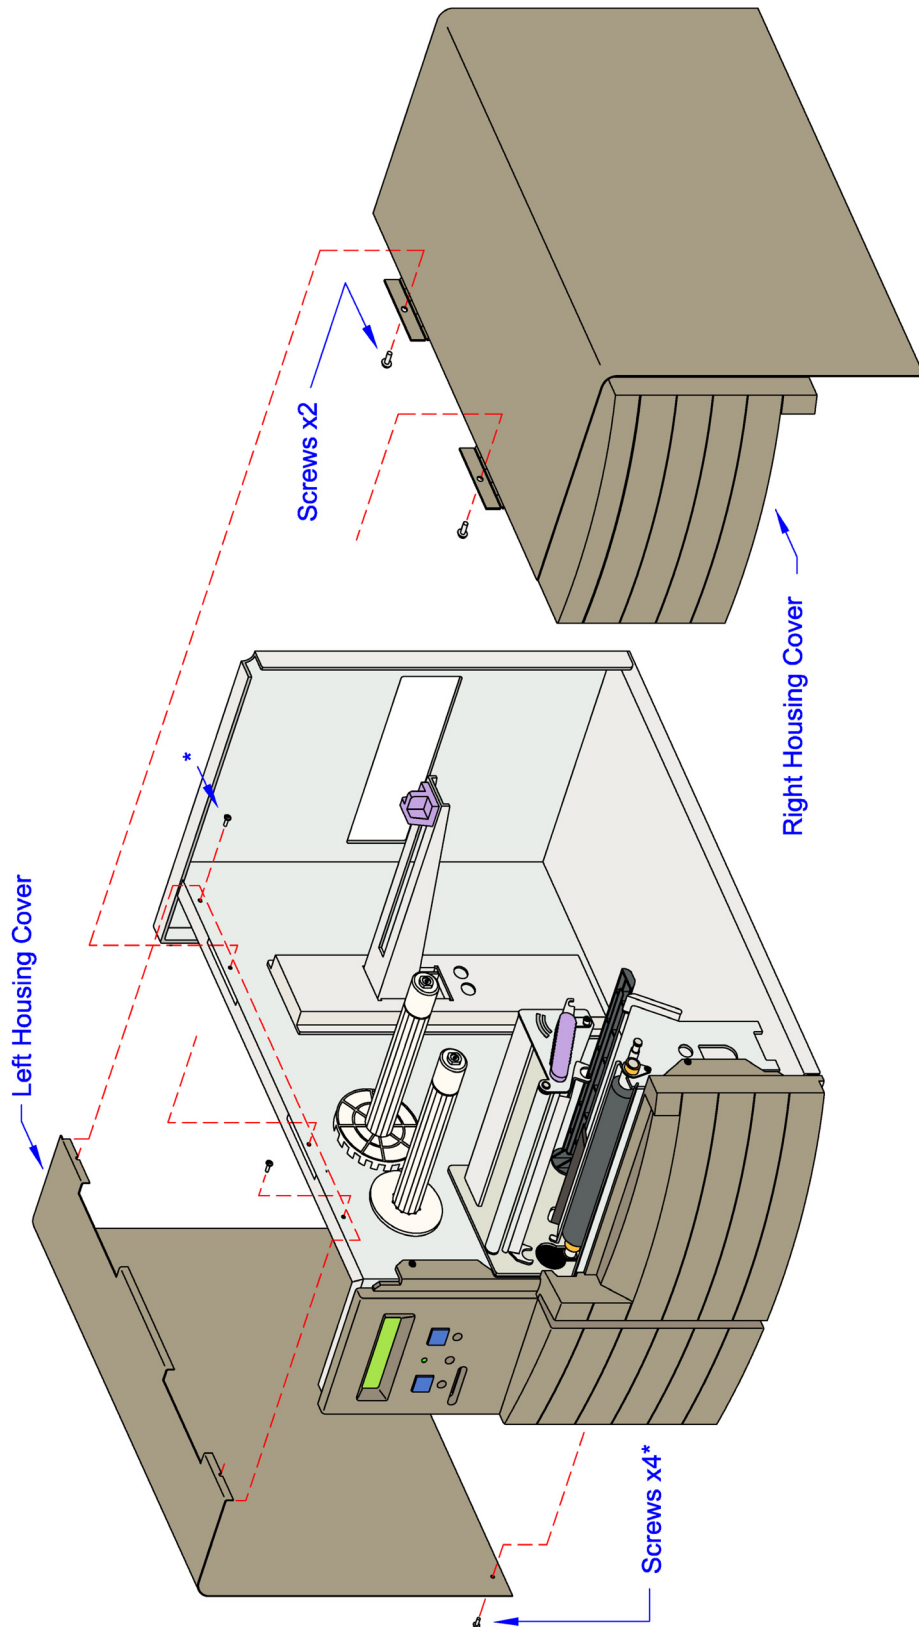

Figure 9-1, Cover Removal Diagram
**NOTE:** Figure 9-1 of the Appendix unit displays cover removal and installation.
NOTE: Figure 9-1 of the Appendix unit displays housing cover removal.
NOTE: Figure 9-1 of the Appendix unit displays housing cover installation.